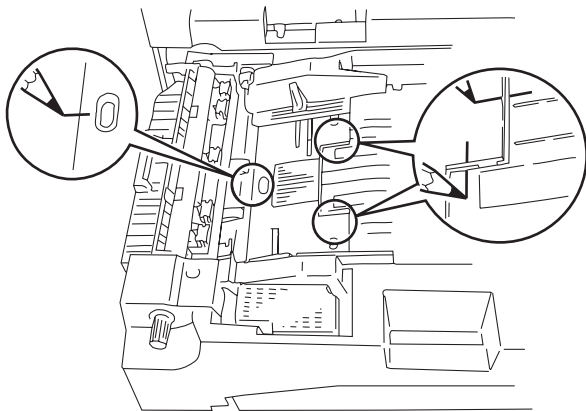

Figure 5-894
- 1) Mark the position of the side plate assembly with a scribe. (See Figure 5-894.)
- 2) Remove the two mounting screws ①, and disconnect the two connectors; then, remove the side guide plate assembly ②.